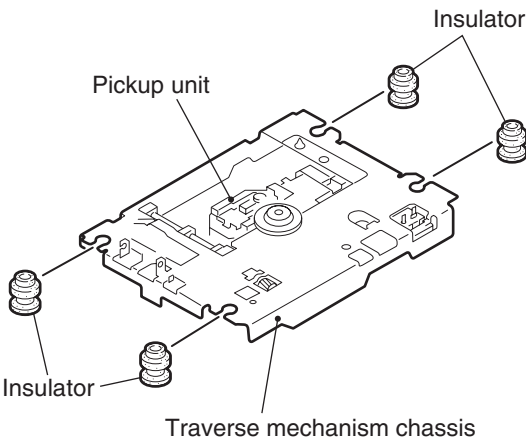

Fig.16
■ Removing the insulator (See Fig.16)